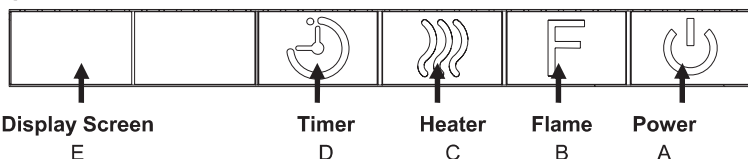

Figure 6
Power(Figure 6.A):
Flame(Figure 6.B):
Heater(Figure 6.C):
Press once to activate the Low Heat Setting (L) , presss the button the Second time to activate the High Heat Setting(H), and the Third time to activate the "Auto" function(A), after that the thermostat starts to work and to setup desired setting before the BLUE indicator light fading away;the highest temperature of thermostat is 95° F and the lowest is 65° F. Once activate the HEATER , the display screen(Figure 6.E), will display the heater setting in using accordingly shortly. You may turn off the HEATER by this button as well.
Timer(Figure 6.D):
Press once to activate the TIMER. Using the TIMER to have the unit turn off automatically after 30 minutes or up to 9 hours.The display screen(Figure 6.E) will present the setting shortly.